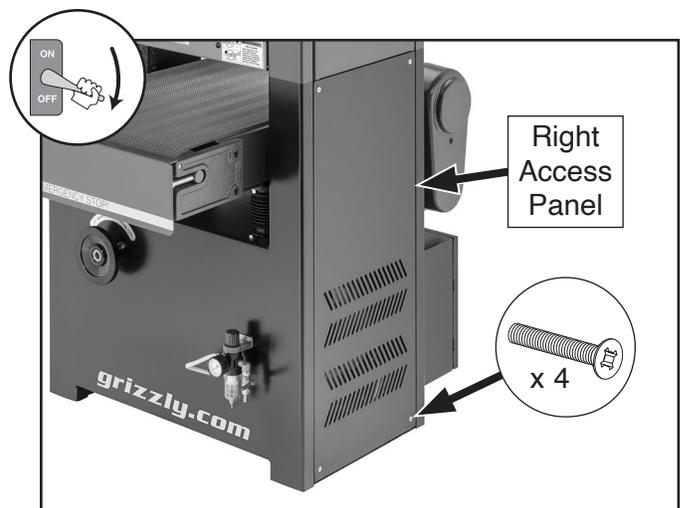

Figure 98. Location of right access panel and screws.
2. Remove (4) screws shown in **Figure 98** to remove right access panel.